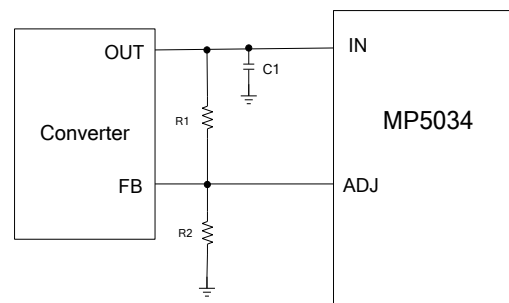

Figure 3: ADJ Configure
Figure 3 shows the typical ADJ usage. The ADJ sink current capability is 500 μ A. The feedback current through R1 must be less than 500 μ A. Calculate R1 with Equation (1):